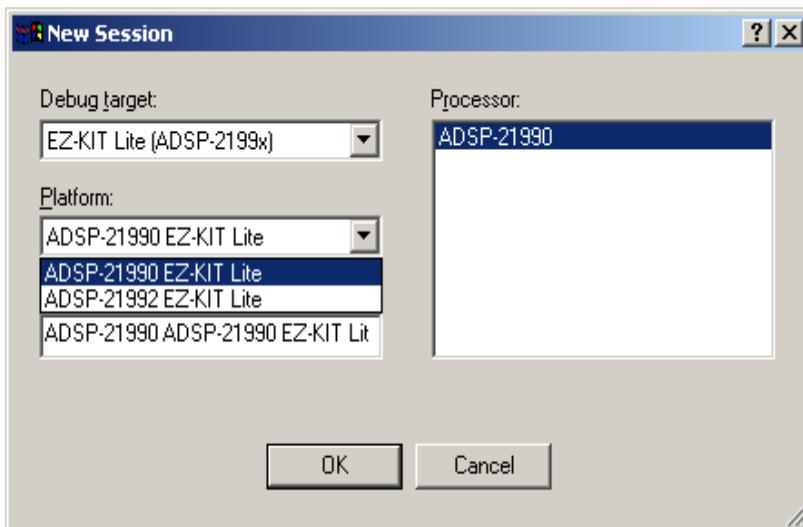

Figure 1-11. New Session Dialog Box
5. The **New Session** dialog box, similar to Figure 1-11, appears.